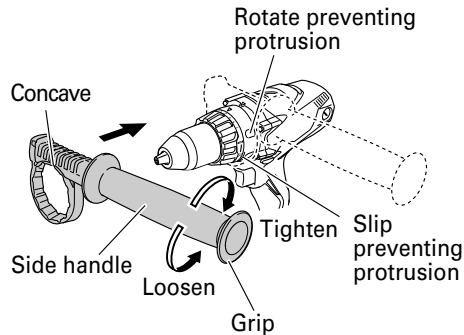

Fig. 6
- (1) Install the side handle so that the protrusions on the main unit and grooves on the side handle interlock. Tighten the grip after checking that the side handle is not riding on the slip prevention protrusion. (Fig. 6).
- (2) Loosen the grip to remove the side handle.